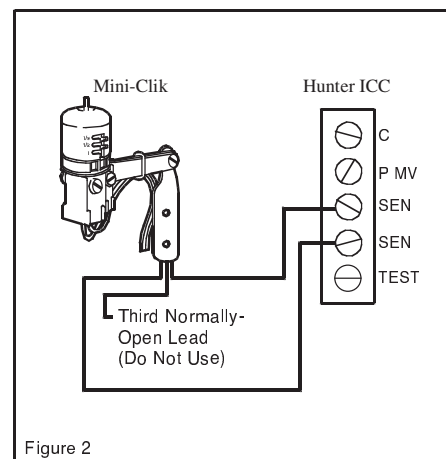

Figure 2
- Connect one wire to the terminal labeled "SEN" and the other wire to the other "SEN" terminal (See Figure 2).